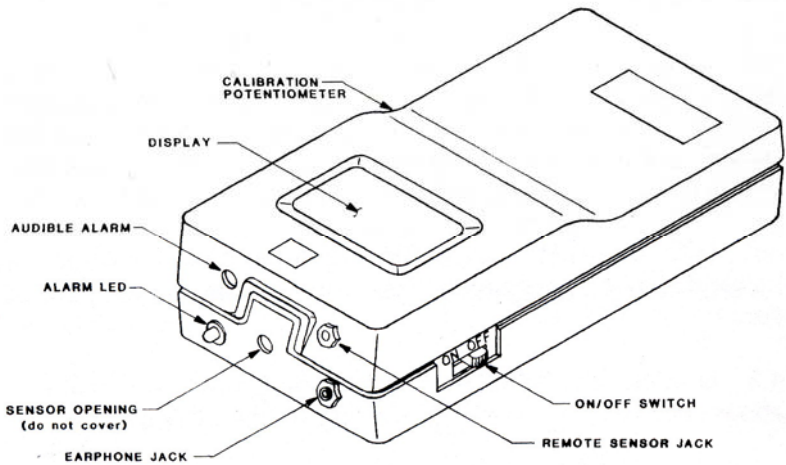

Figure 1
- 3.1 The Model 55 is housed in a rugged, high impact enclosure. The sliding ON/OFF power switch is located on the left side, the calibration potentiometer is accessible on the right side and the digital display is on the front surface. The top of the monitor contains the sensor opening, jacks for earphone and remote sensor , the alarm LED and audible alarms. See Figure 1.